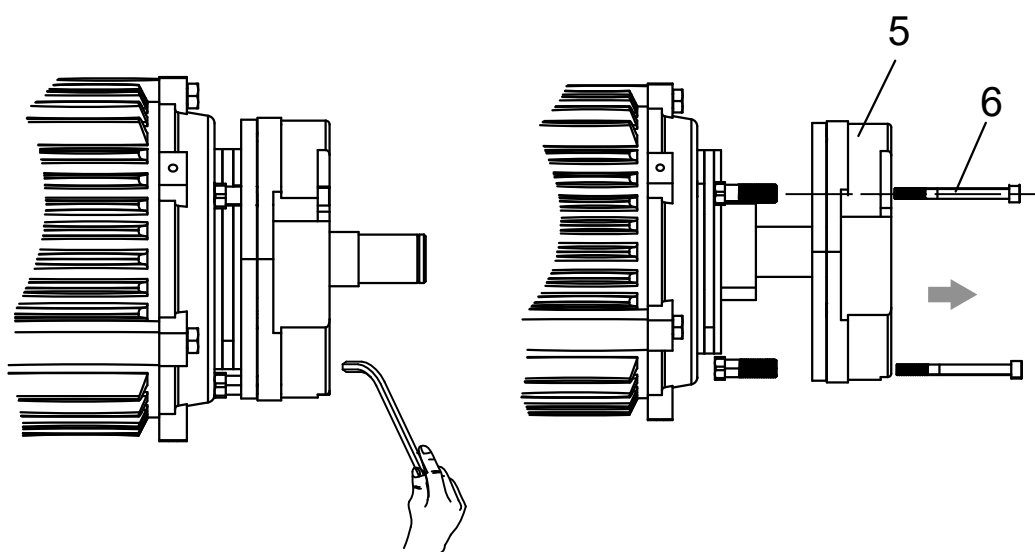

Fig. 6-24b
- See Fig. 6-24b, loosen the fixing screws ⑤, and remove the brake ⑥.